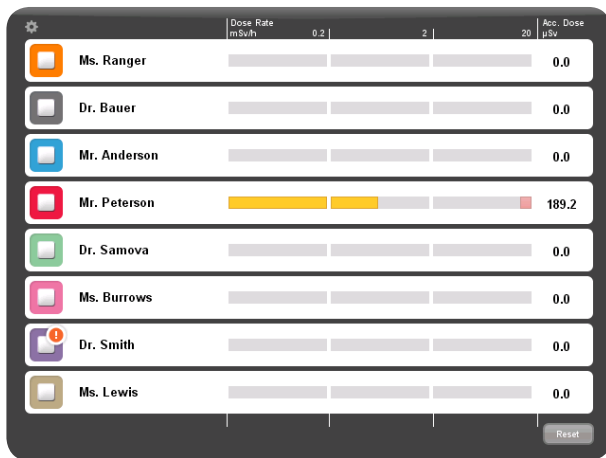

Figure 17. The Real-time Display online view.
2. Expose the dosimeter to scattered radiation by placing the dosimeter outside the primary beam, close to a phantom which is placed in the X-ray field. Verify that the Real-time Display shows a dose rate bar instantaneously, updating once per second (Figure 17).